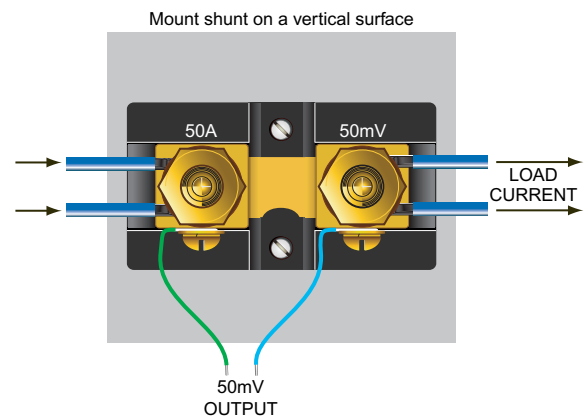

Figure 1. Typical installation
2. Mounting Considerations: All shunts should be mounted with their resistance blades in a vertical position to allow for natural convection cooling (see Figure 1). Forced-air cooling must be provided when vertical mounting is impractical, or in installations where the shunt is installed in a confined location. The shunt's manganin blades must never be allowed to exceed $+125^\circ\text{C}$; doing so will cause permanent damage to the shunt.
Whenever practical, all shunts should be connected in the grounded side (normally the 'chassis') of the dc supply. However, these shunts must be connected in the grounded side of the circuit when the dc supply exceeds 750 volts (the rated limit for the shunt's phenolic insulating base). When more than one wire is to be connected to each end of a shunt, the wires must be evenly distributed between both terminals (see Figure 1).